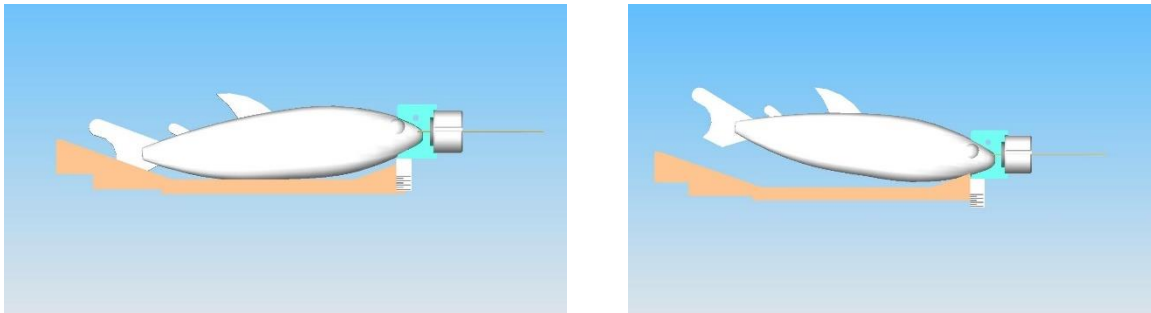

Figure 50: Needle Penetration in Reference to Tag Height
- i. If the tag is too low move the stop block on the trap door down slightly (see Figure 50 below).
- ii. If the tag is too high move the stop block on the trap door up slightly (see Figure 50 below).
Adjusting the stop block on the trapdoor changes the angle at which the fish travels into the system as shown in Figure 50. This in turn changes the penetration point and the tag location.